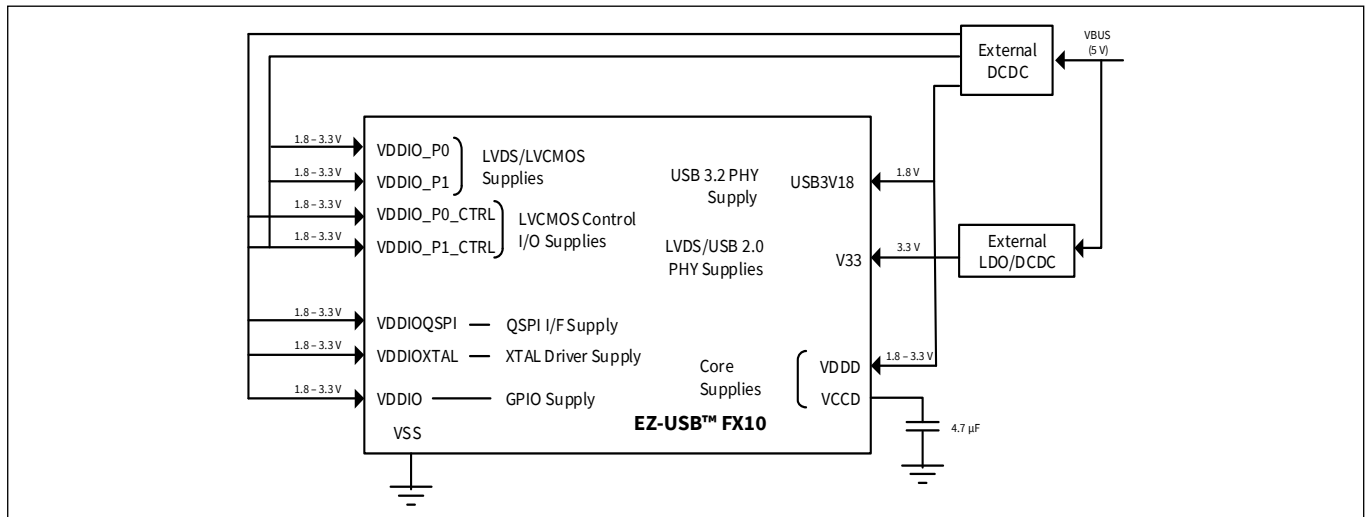

Figure 7 Power system requirement block diagram
Figure 7 shows the power system requirements for power pins for all supported packages.
8. The power specification includes the total power consumed by all the rails (see Figure 7).
9. The power specification includes the total power consumed by all the rails (see Figure 7).